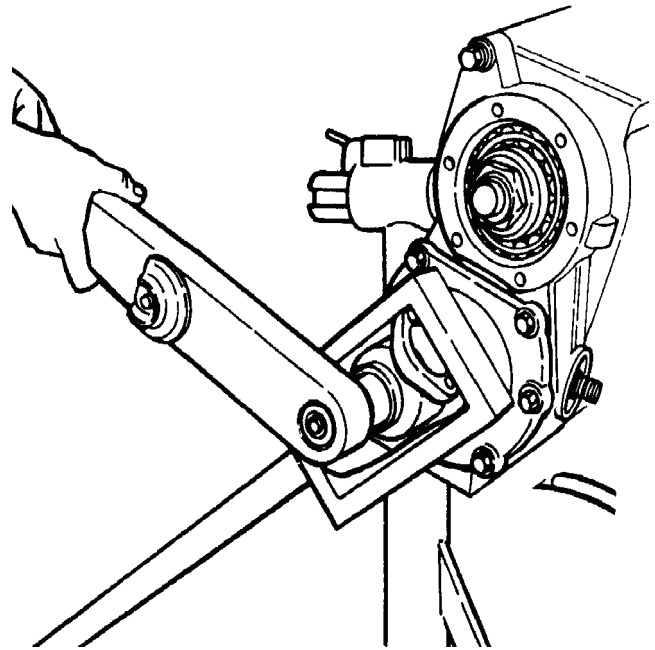

Figure 11. Input Shaft Yoke Nut.
**DO NOT REMOVE**, the nut that fastens the yoke to the input shaft. Figure 11.